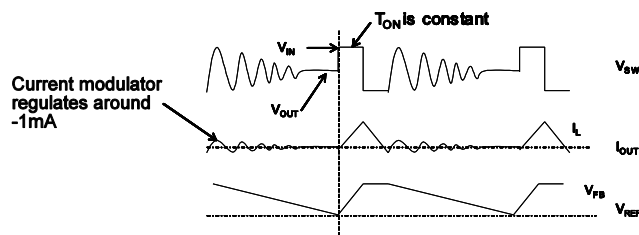

Figure 3: Light-Load Operation
Light-load operation is shown in Figure 3. When V_{FB} is below V_{REF} , the HS-FET is turned on for a fixed interval, which is determined by the one-shot on timer. See Equation (1). When the HS-FET is turned off, the LS-FET turns on until the inductor current reaches zero. In DCM operation, V_{FB} does not reach V_{REF} when the inductor current is approaching zero. The LS-FET driver enters tri-state (high Z) when the inductor current reaches zero. A current modulator takes over the control of the LS-FET and limits the inductor current to less than -1mA. This causes the output capacitors to discharge slowly to GND through the LS-FET. As a result, the efficiency during a light-load condition is improved greatly. During a light-load condition, the HS-FET is not turned on as frequently as it is during a heavy-load condition (skip mode).